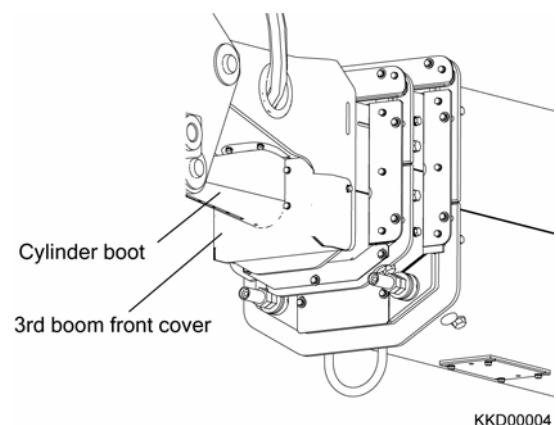

Fig. 2-33
- 8) Take the 3rd boom front cover and cylinder boot off. (Fig. 2-33)